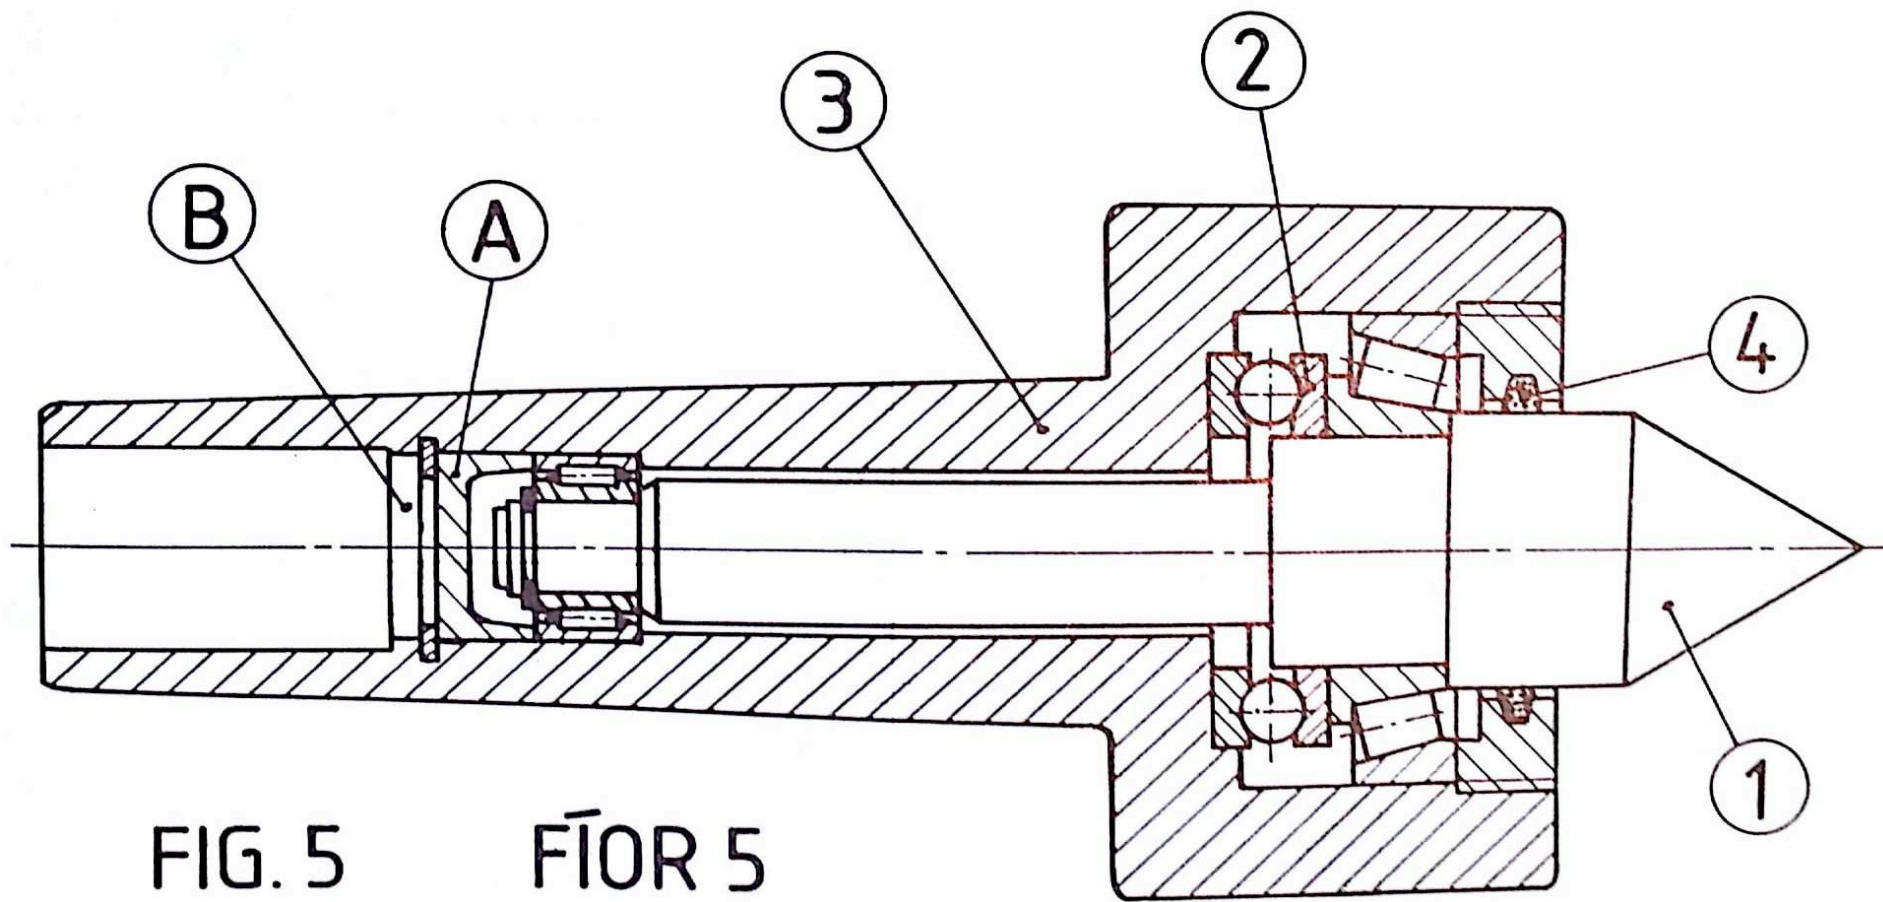

FIG. 6 F10R 6
- (a) Fig. 6 shows a plan and elevation of a guide shoe. Draw an isometric view of the shoe, viewed in the direction of arrow x, with the quadrant removed on section plane AAA.